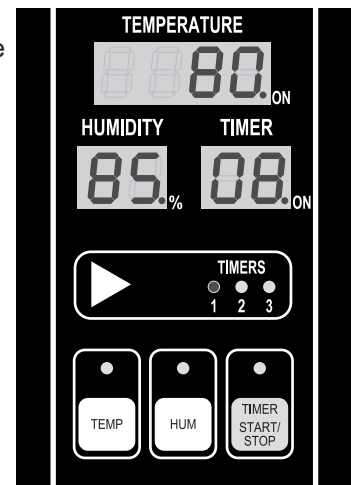

Fig. 2
2. If the unit is set to display the actual temperature (Fig. 2), the button indicator LED will not be illuminated.